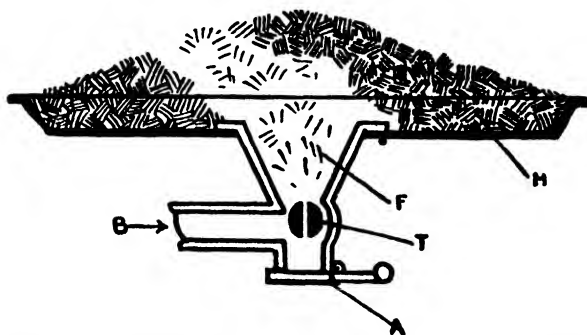

FIG. 1. Cross-section of forge and fire. H, hearth; F, fire pot; T, tuyere; B, blast; A, ash dump.
5. Bank the fire on three sides with wet, green coal; leaving the side next to you open. Fig. 1.